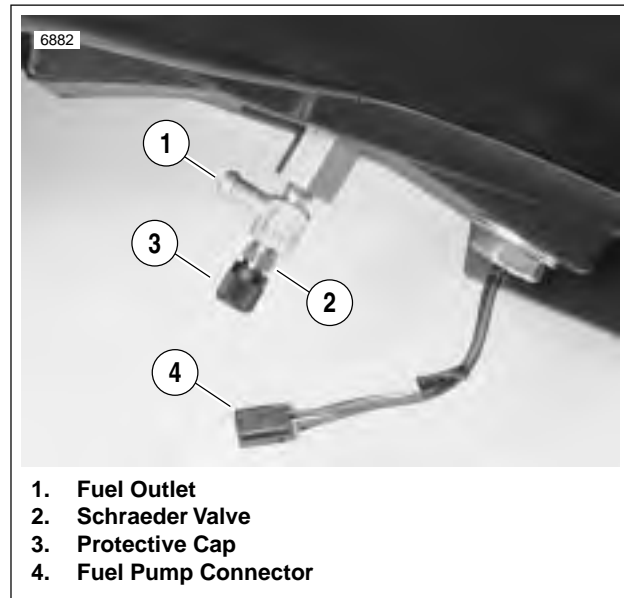

Figure 4-34. Schraeder Valve and Cap (Fuel Tank Removed From Chassis)
- a. Verify that fuel valve (2) and air bleed petcock (4) on the gauge are closed.
- b. See Figure 4-34. Remove protective cap (3) from Schraeder valve (2).
7. See Figure 4-34. Turn engine off. Detach pressure gauge from Schraeder valve.